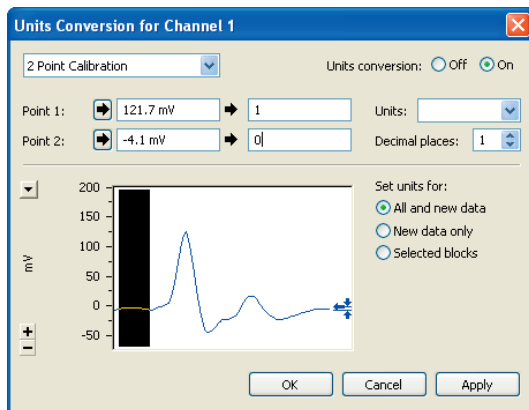

Figure 23c. Baseline value selected in the Units Conversion dialog box.
6. Use the cursor to select a broader region before the pulse (Figure 23c). Clicking the broad arrow next to Point 2 will input the average voltage value over the selection in the left hand column.